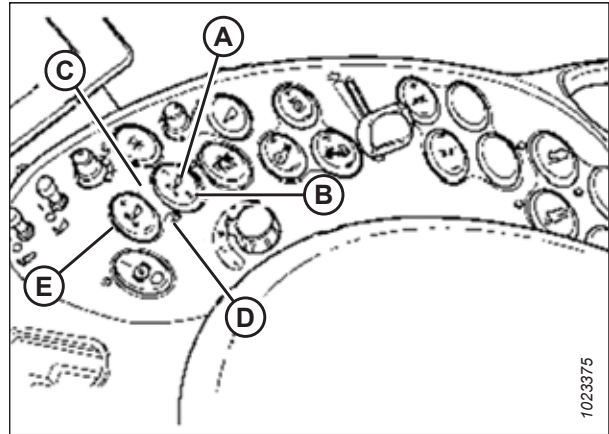

Figure 4.60: Case Combine Controls
You can adjust these set points by using FINE ADJUST switch (E) in Figure 4.60, page 128.